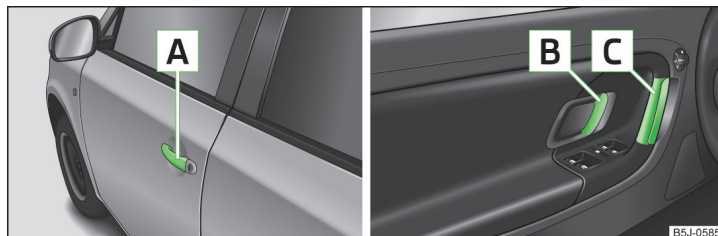

Fig. 29 Door handle/door opening lever:
- Unlock the vehicle and pull the door handle **A** » Fig. 29 on the door you wish to open.